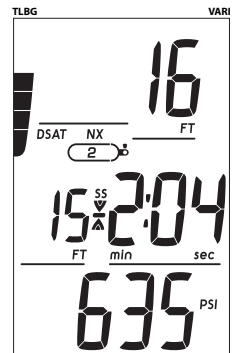

Fig. 59 - SS MAIN
**DS ALT 2 & 3 are similar to No Deco ALT 2 & 3.****SAFETY STOP MAIN**, information includes (Fig. 59) -